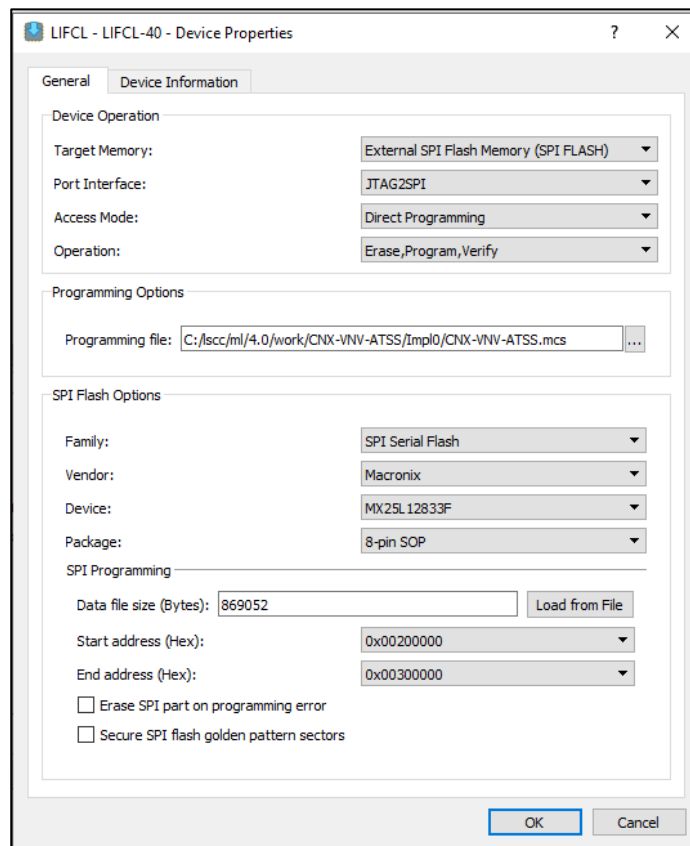

Figure 4.9. Lattice Radiant Programmer – Selecting Device Properties Options for CrossLink-NX Flashing
3. In the **Device Properties** dialog box, apply the settings as shown in Figure 4.9.